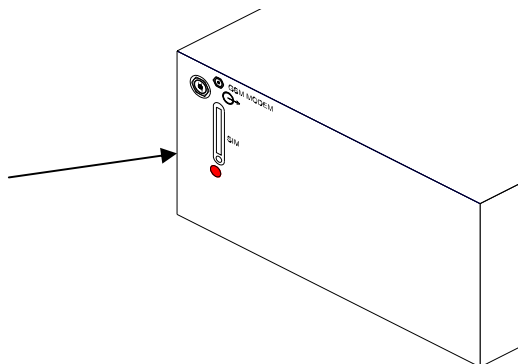

FIGURE 6 – DETAIL OF THE SIM INSERTION
- Insert the SIM enabled to data transmission in not transparent mode 9600BPS (FIGURE 6)